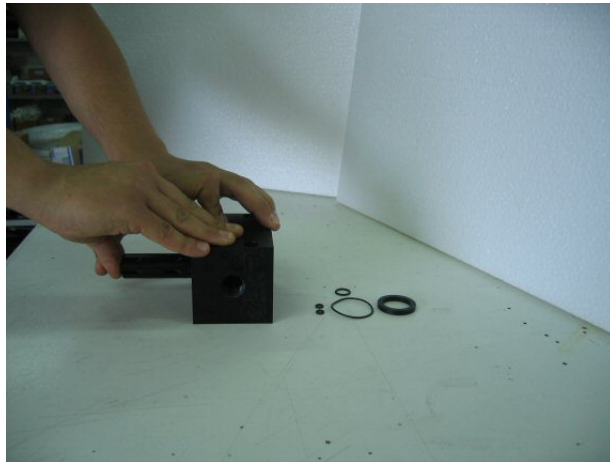

Fig. 20 – Mounting top ERS shaft
- 6) Grease the small rod with white silicone grease and insert it inside the main valve body (Fig.20);